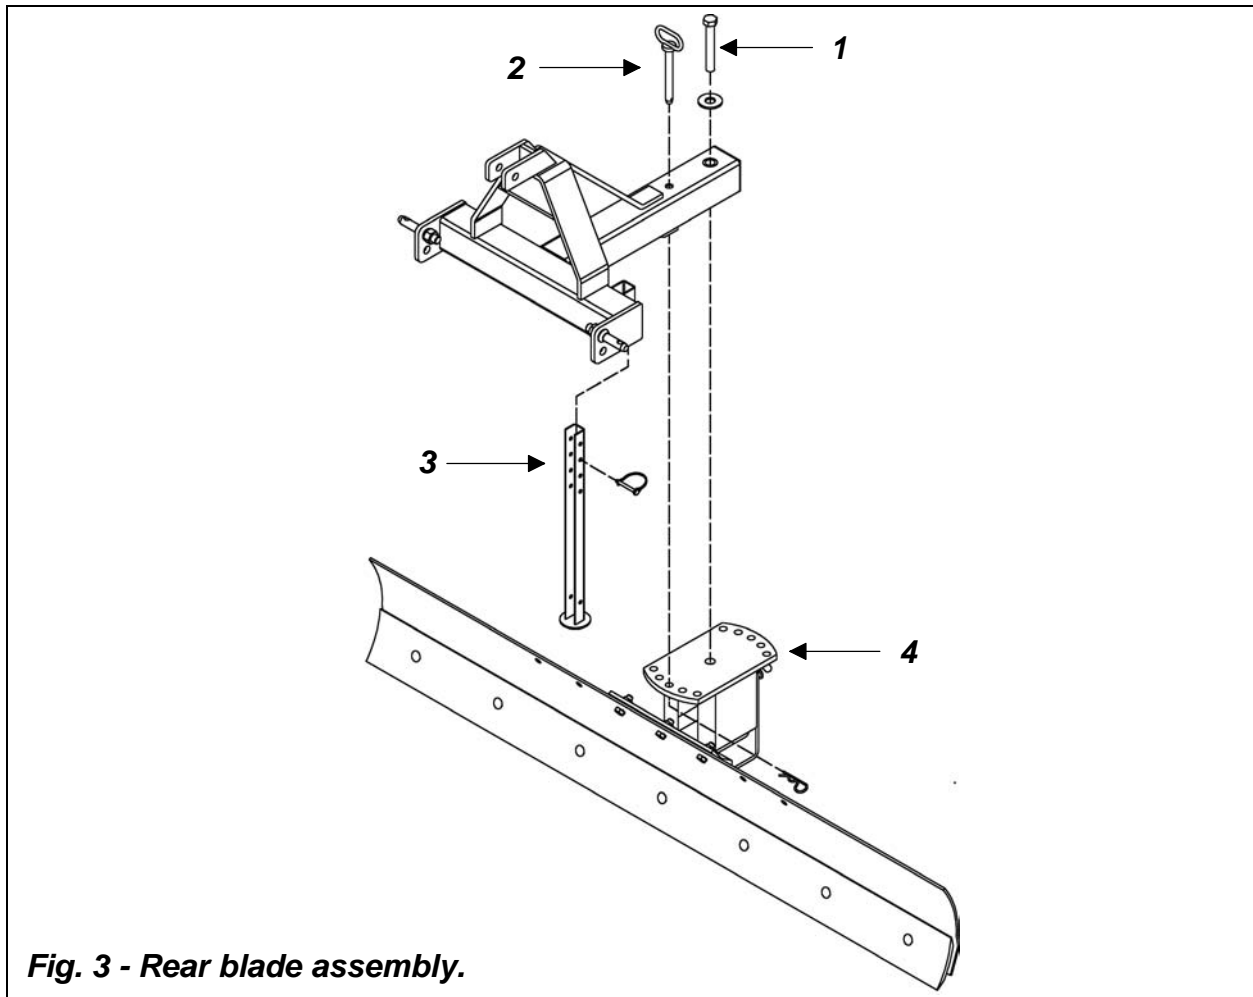

Fig. 3 - Rear blade assembly.
1. Securely block blade assembly with blocks or stands so that swivel plate (see #4, fig. 3) is facing upward.
2. Position the A-frame on top of the blade assembly, insert the swivel pin (**see #2, fig. 3**) and secure with hairpin cotter.
3. Insert the foot stand (**see #3, fig. 3**) in storage position to support the blade and secure with lynch pin.
4. Screw the pivot bolt (**see #1, fig. 3**) and washer to the welded nut on the blade assembly and tighten to correct torque.
2. Loosen pivot bolt if necessary (see #1, fig. 3).
3. Remove hairpin cotter and pull out swivel pin (see #2, fig. 3).